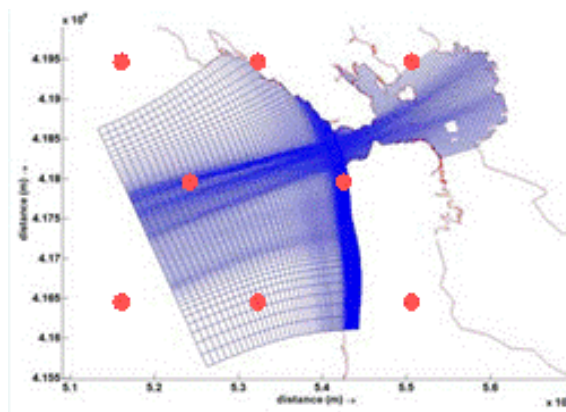

Fig. 21: Wind vertices (red) and computational grid (blue)
- <provided> in case of area Quantities as waterlevel, salinity or wind. <provided> means that the imported ElementSets with coordinates etc. gets transformed into Delft3D-Flow where a spatial interpolation to the vertices of the Delft3D grid takes place. Fig. 21 shows red vertices of the coarse grid with measured wind. Their values get linear interpolated to the blue vertices of Delft3D's computational grid.